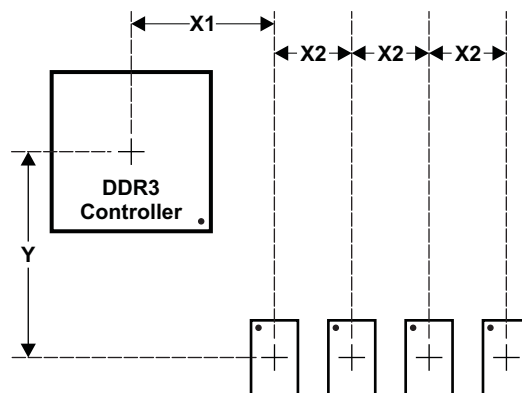

Figure 8-47. Placement Specifications
Figure 8-47 shows the required placement for the processor as well as the DDR3 devices. The dimensions for this figure are defined in Table 8-52. The placement does not restrict the side of the PCB on which the devices are mounted. The ultimate purpose of the placement is to limit the maximum trace lengths and allow for proper routing space. For a 16-bit DDR memory system, the high-word DDR3 devices are omitted from the placement.
- (1) For dimension definitions, see Figure 8-47.
(2) Measurements from center of processor to center of DDR3 device.
(3) Minimizing X1 and Y improves timing margins.
(4) w is defined as the signal trace width.
(5) Non-DDR3 signals allowed within DDR3 keepout region provided they are separated from DDR3 routing layers by a ground plane.